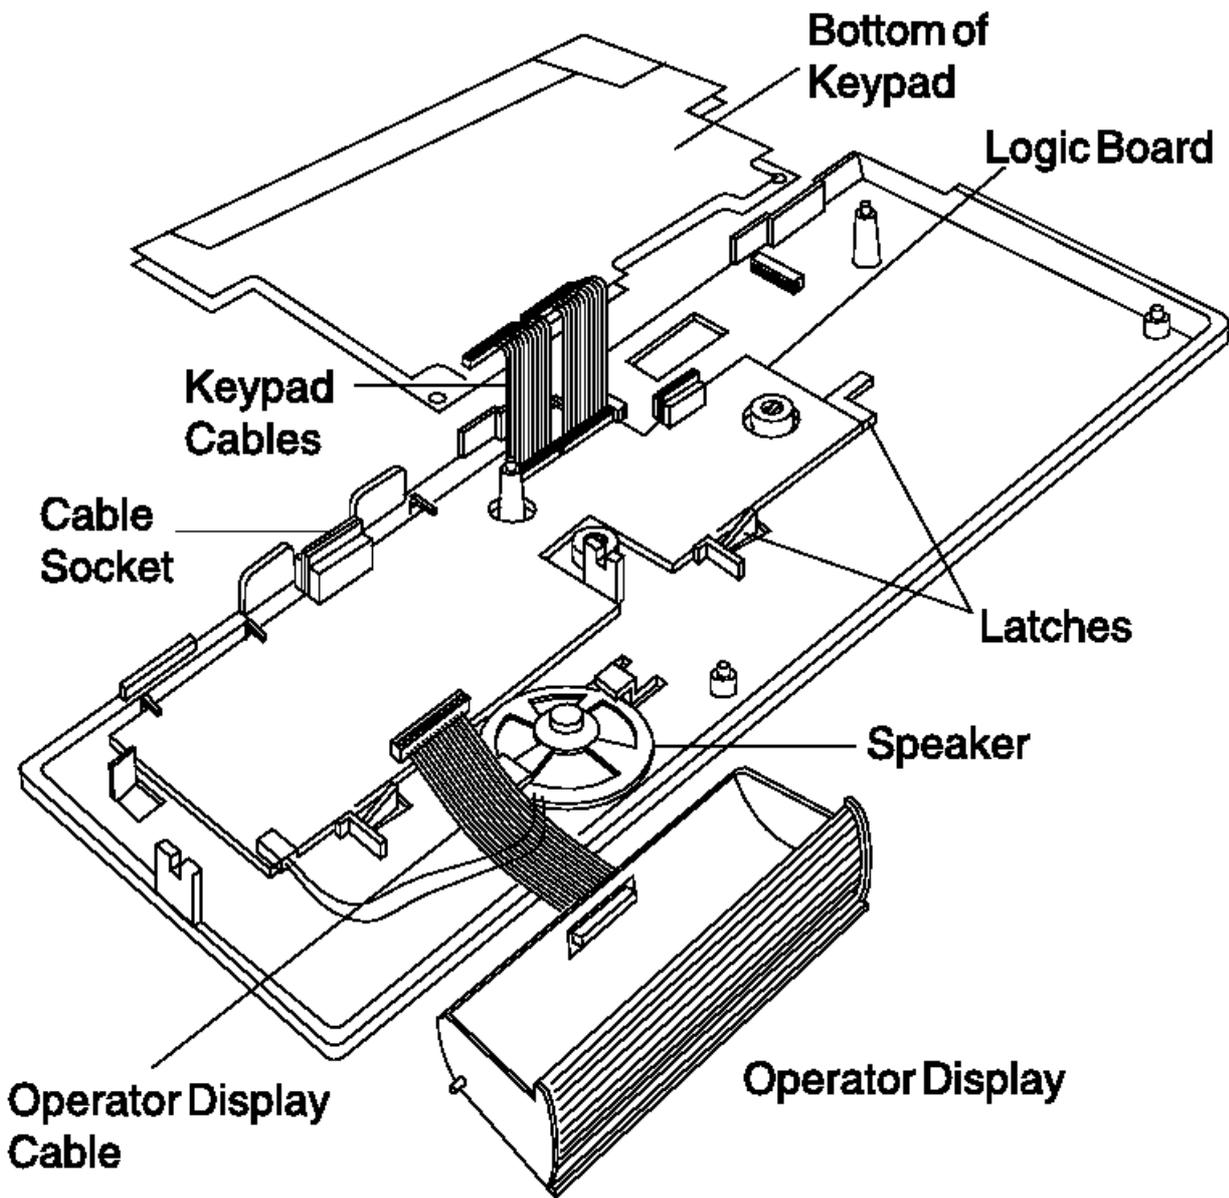

Figure 4-12. Removing the Keypad
4. Lift the keypad assembly and turn it over as shown in Figure 4-12 in topic 4.3.5.8.